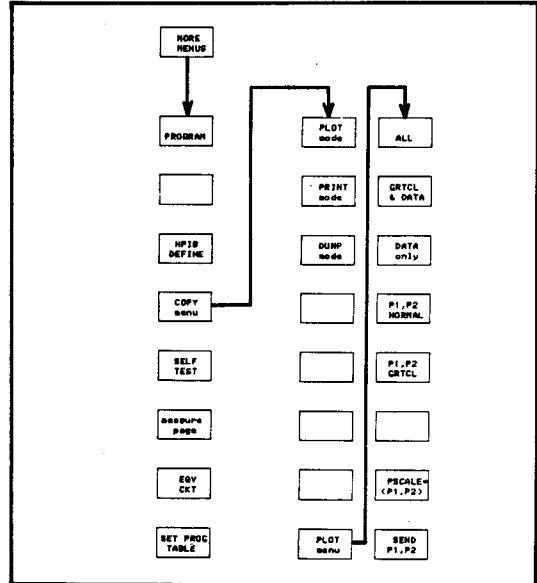

Figure 3-153. COPY and PLOT menus
3. Press the **MORE MENUS** key, and select the 'COPY menu' softkey, the COPY menu will be displayed in the Menu Area of the screen as shown in Figure 3-153.
5. If a plotter is connected, select the 'PLOT mode' softkey, and press the 'PLOT menu' softkey. The PLOT menu will now be displayed as shown in Figure 3-153.